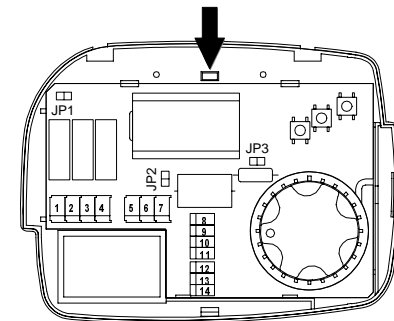

Fig. 4: Internal view.
2. Unmount the plate fixed at the controller back by pressing the plastic tooth shown in Fig. 4 and, at the same time, pull the plate to the bottom until it becomes free from the plastic base.
This controller can be powered either with 230V~ or with 24V~. The controller is factory configured by default for a 230V~ operation with the relevant jumper in position JP1. For the 24V~ operation it is necessary to move the jumper from position JP1 (Fig. 4) to position JP2 (Fig. 4). As shown in Fig. 6 terminals 5 and 6 are provided for power supply. In case of 230V~ mains power it is mandatory to respect Live and Neutral indication.